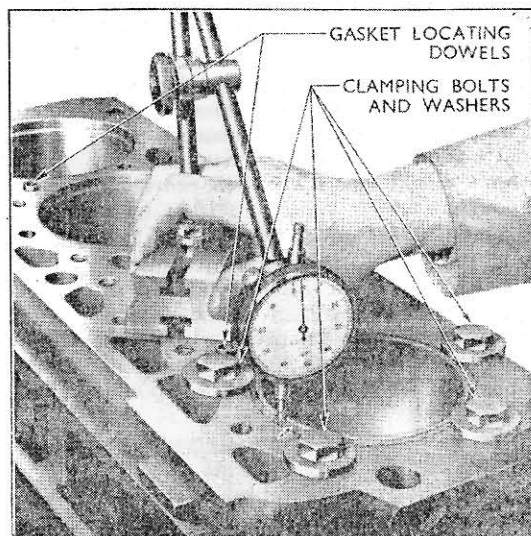

Fig. 16
2. Discard the cylinder liner rubber sealing rings and fit one of the liners without a sealing ring to the cylinder block. Clamp it down at five locations, using suitable screws and washers as shown in Fig. 16, and tighten the screws to a torque of 20 lbs. ft. (2.764 kg.m.).